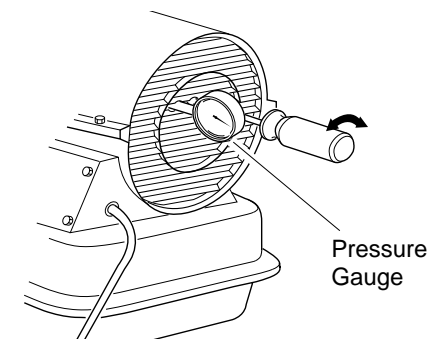
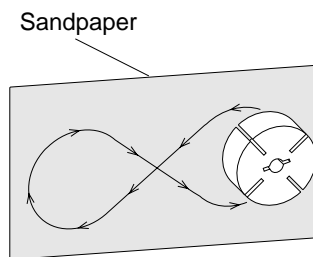

Figure 8 - Adjusting Pump Pressure
Figure 18 - Sanding Rotor
14. Place fine grade sandpaper (600 grit) on flat surface. Sand rotor lightly in "figure 8" motion four times (see Figure 18).